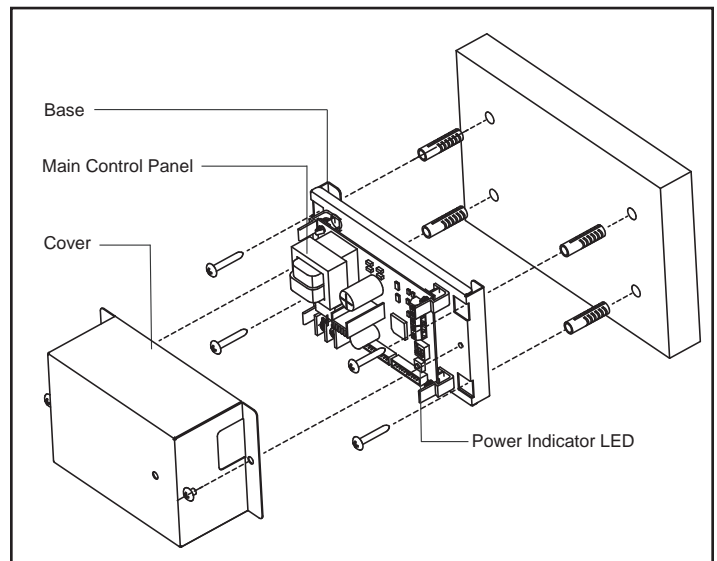

Figure 1. Installation
1. Attach the V0CTRL00P-1 base to the desired location using figure 1 as a guide.